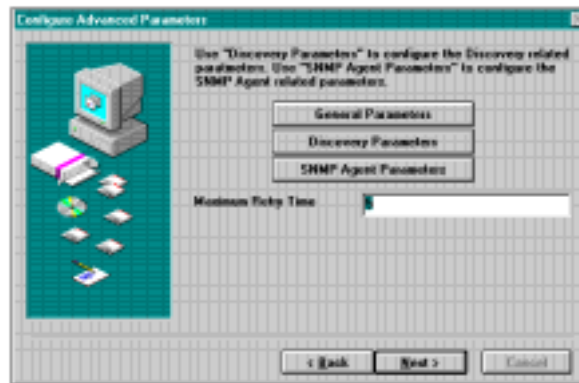

Figure 8-2. Configuring Advanced Parameters
10. In the “Configure Advanced Parameters” menu (Figure 8-2), configure the following: